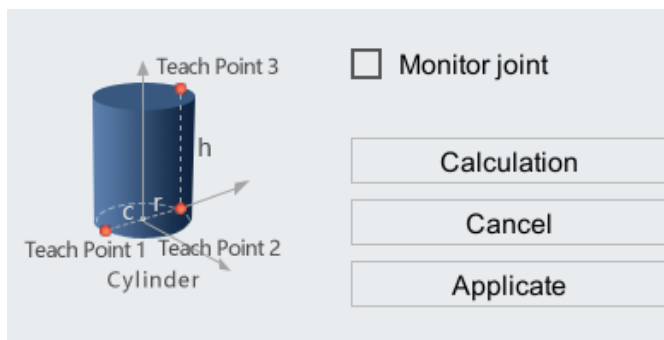

Figure 6-59 Contents of model of cylinder working zone
If you want to uniquely determine the working zone of the cylinder, you need to calculate the teach points 1, 2 on the bottom circle of the cylinder and the height (h) of the cylinder. As shown in Figure 6-59, the distance between the teach points 1, 2 is the diameter of the bottom circle (2r), and the center point of the teach points 1, 2 is the center of the bottom circle (c). The working zone of the cylinder can be determined through teaching method and manual input method.
Step4. After the teaching of three points is completed, click <Calculate> button shown in Figure 6-59 to automatically calculate the coordinates of the bottom circle center (c), the radius of the bottom circle (r), and the height of the cylinder (h). Click <Applicate> button to complete the zone setting.